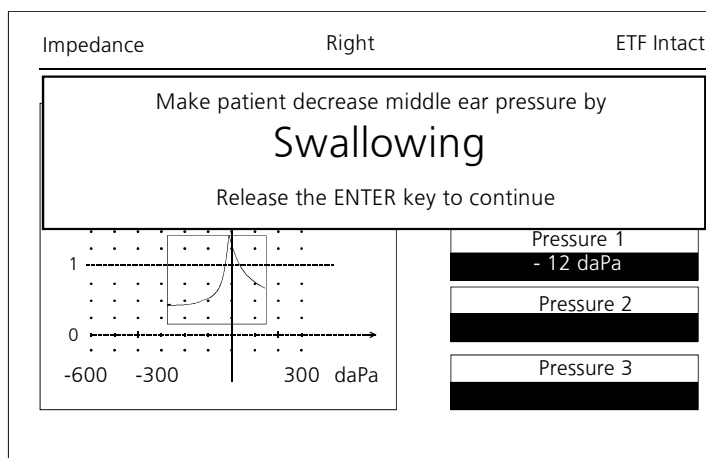

Figure 30 The ETF screen after first test cycle (Pressure 1)
Now the text "Make the patient decrease middle ear pressure by Swallowing" occurs at the LCD display ⑤ (see figure 30).